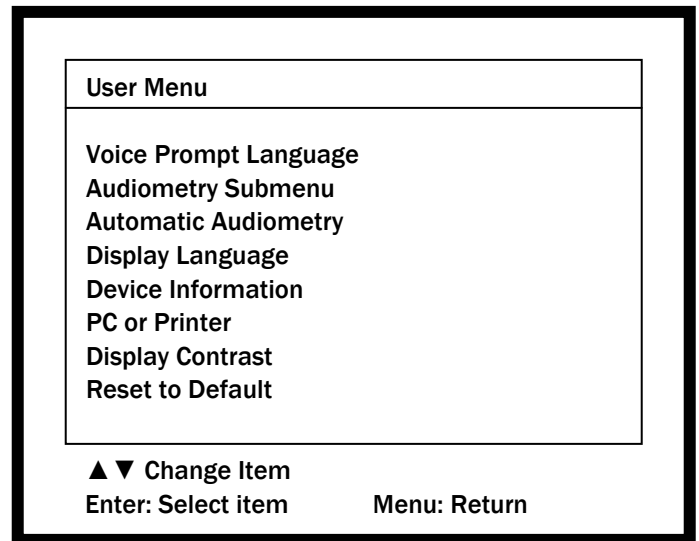

Figure 3
Press the **MENU button (9)** again to exit the respective menu or user menu (Figure 3). After leaving the user menu you will return to the test you last selected. The possible settings of the Detective Audiometer are as follows:
Additional items on the **User Menu** screen (Figure 3) include: